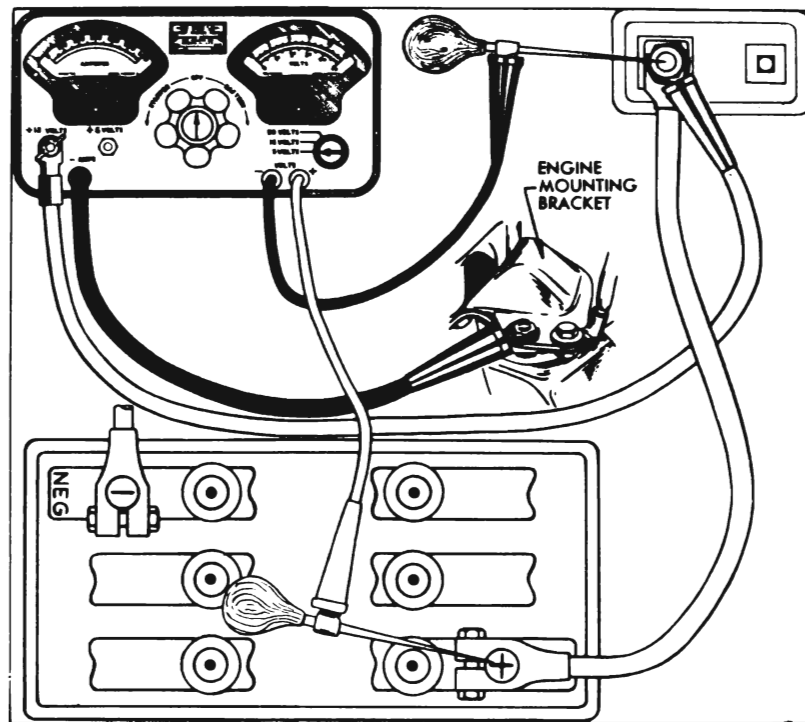

Figure 10-4—Battery Cable Test Connections
2. Connect ammeter positive (+) lead to battery terminal stud on junction block. Connect ammeter negative (-) lead to one side of rheostat and connect other side of rheostat to ground on engine, preferably at point where battery ground strap is attached. In the instrument shown in figure 10-4 the ammeter and rheostat are connected in series inside the case.
prod to voltmeter positive (+) lead and apply the prod to *center* of battery positive (+) post (fig. 10-4). Make sure that clips of voltmeter leads have clean metal contact with prods.